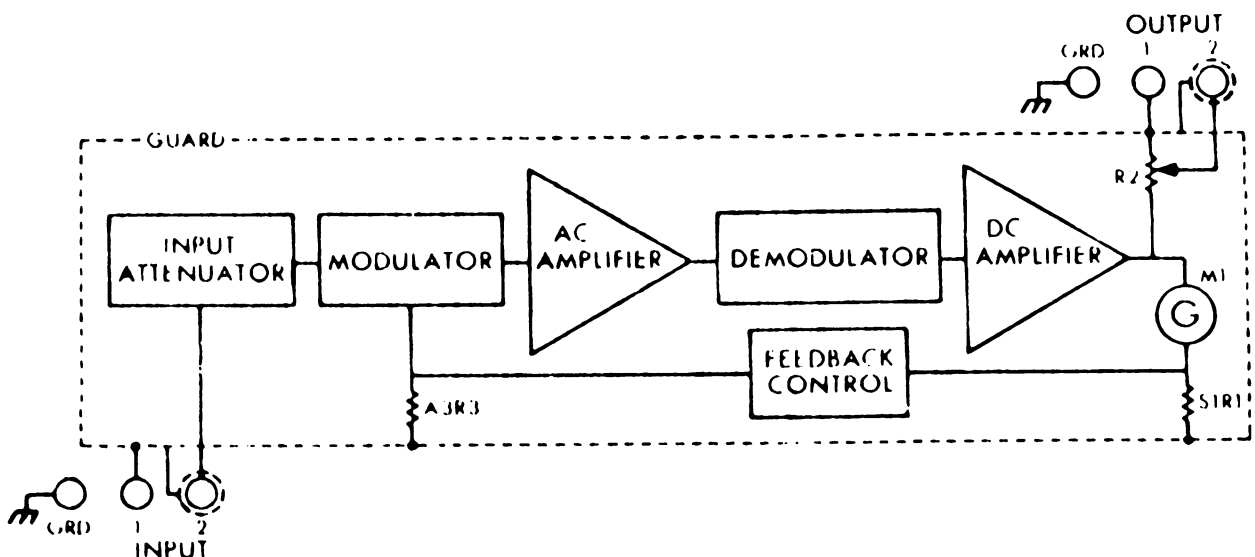

Figure 1-2. Detector block diagram.
**Exercises (201):**
**Detector.** The detector of the Model 801 is a high-sensitivity solid-state DC voltmeter. It has the following basic circuits: (1) an input attenuator, (2) a modulator and demodulator, (3) an AC amplifier, (4) a DC amplifier, (5) a meter, and (6) a feedback control circuit. Figure 1-2 is a block diagram of the detector.